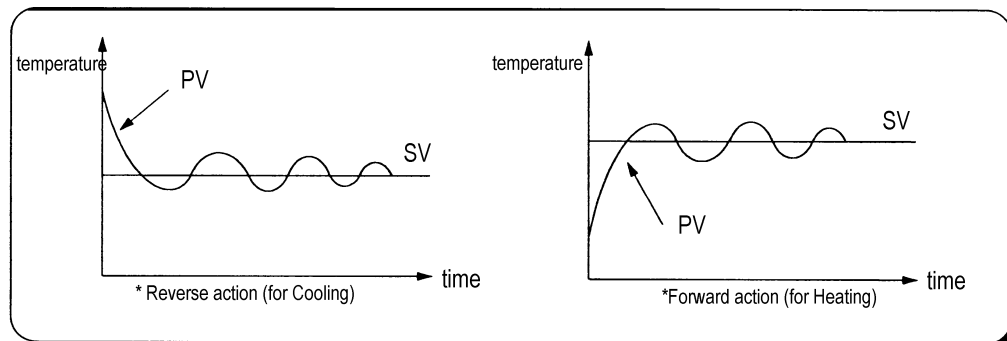

Fig. 2-10 PV of forward / reverse action
- 3) Fig 2.10 shows examples of process control by forward and reverse actions, respectively.
In general feedback control system shown as the Figure 2-10, the deviation value is obtained by the difference of PV and SV. P, I, and D operations are performed based on this deviation value. However, each of P, I, and D operations use different deviation values according to the characteristics of each control actions. The expression of PID control is as following;